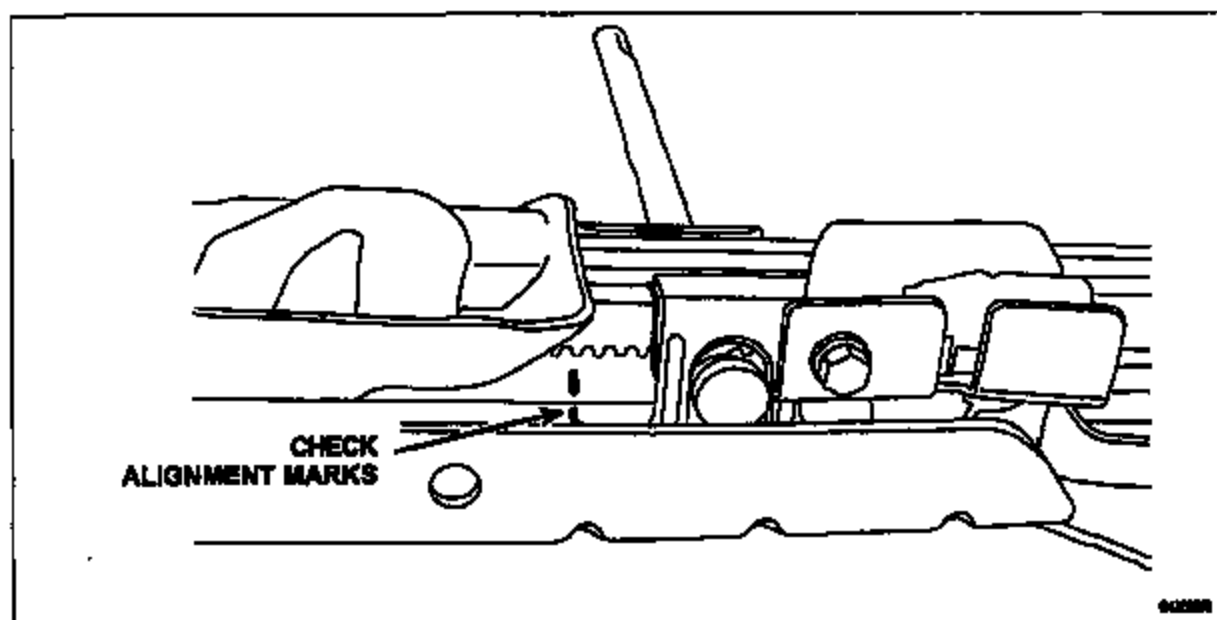

FIGURE 18
11. Check to make sure the index marks on the inboard track C-channel and plastic-coated slide are still in alignment. If necessary, slide the track to realign the marks. See Figure 18.